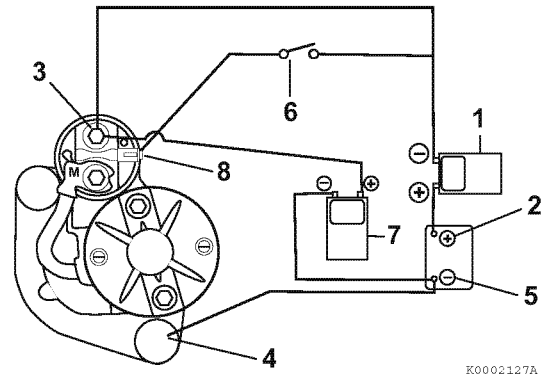

Figure 11-35
- Connect an ammeter (1, **Figure 11-35**) in series between the battery positive (+) terminal (2, **Figure 11-35**) and the main positive (+) terminal (3, **Figure 11-35**) on the starter motor.
- Connect a wire lead between the mounting base of the starter motor (4, **Figure 11-35**) and the battery negative terminal (5, **Figure 11-35**).
- Connect a voltmeter (7, **Figure 11-35**) to the battery negative (-) terminal (5, **Figure 11-35**) and the main positive (+) battery terminal (3, **Figure 11-35**) on the starter motor.
- Install a switch (6, **Figure 11-35**) in a circuit between the battery positive (+) terminal (2, **Figure 11-35**) and the starter magnetic switch (solenoid) terminal (8, **Figure 11-35**) on the starter motor.